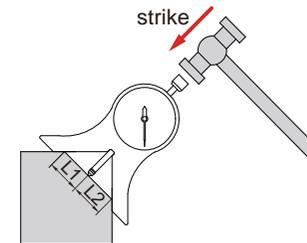

fig.3
- Mount the locator onto the rectangular workpiece, ensuring the magnetic base firmly adheres to the workpiece. The punch rod should be perpendicular to the marked surface, and gently strike the punch to mark the center point (fig. 3).